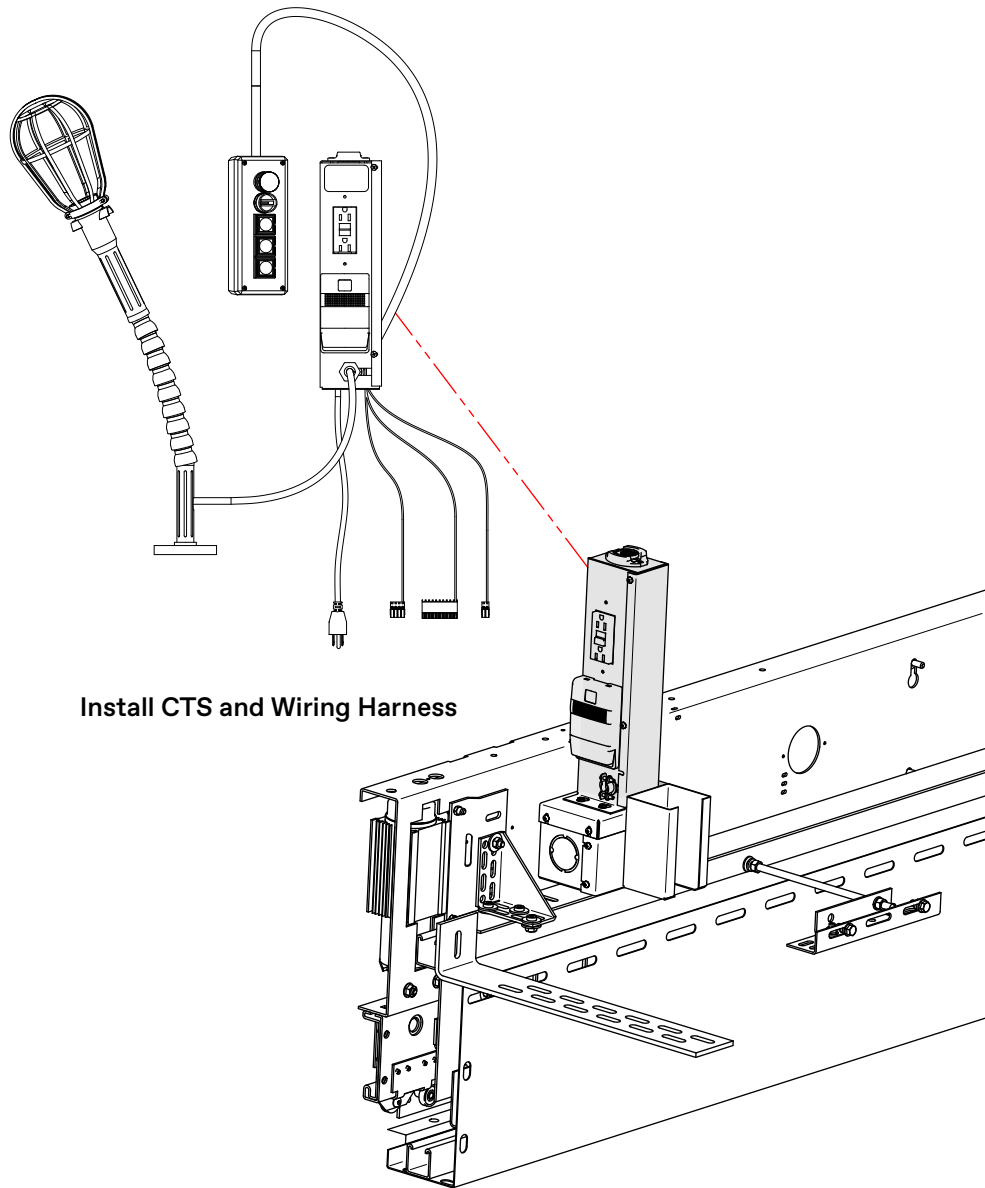

Figure 29 - Door Operator, CTS, and Wiring Harness Installation
7. Install the door operator. See Figure 29.